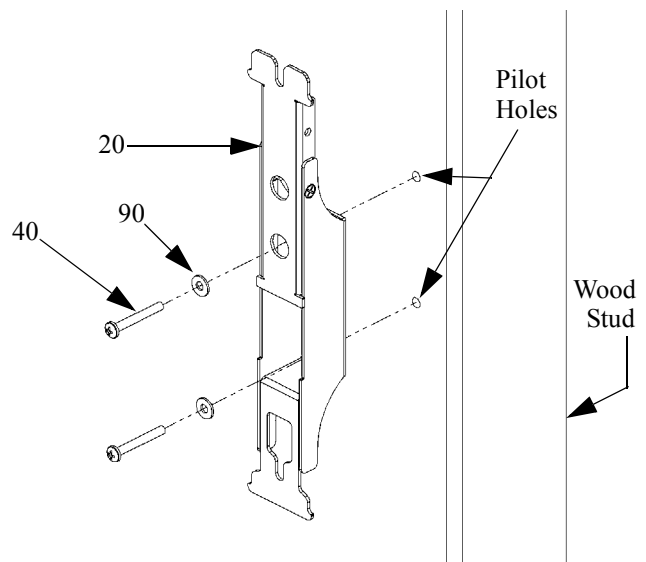

Figure 7. Install Speaker Wall Bracket On Wood Stud
2. Using the speaker wall bracket (20) as a template, level the unit and mark the location of the two mounting holes.
3. Drill two pilot holes for anchoring the wall bracket. If drilling into wood studs, use a 1/8” drill bit. See Figure 7.
4. Using two #10 wood screws (40) and two #10 washers (90), install the wall bracket on the wall.
5. Repeat the procedure to install the second speaker wall bracket (20).